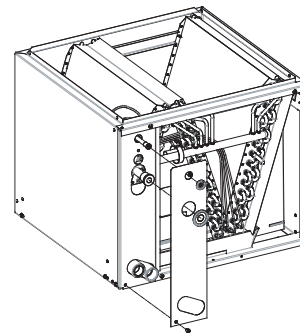

Fig. 13 - Uncased N-Coil & CK5 Casing
7. Slide **header plate** and **grommets** over tubing and condensate pan connections and secure it to the header panel to cover up oversized and additional holes. This will provide an airtight seal and better installation presentation (See Fig. 13).